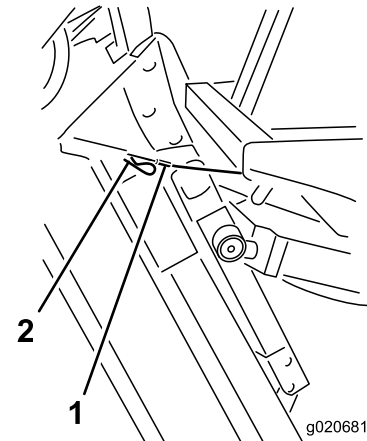

Figure 79
6. Hold the mower deck upright, fit the cable end over the pin on the mower deck lift arm, and secure it with the hairpin cotter (Figure 79).